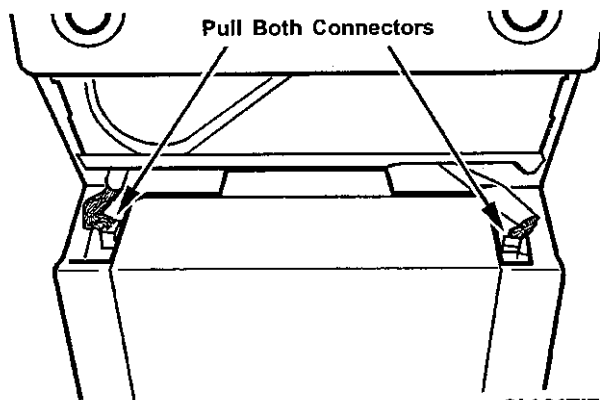

Figure 5-5
3. Disconnect the electrical connectors, by squeezing the retaining clips on the connectors and gently work the connectors out of the sockets (*Figure 5-5*).
3. Disconnect the electrical connectors by squeezing the retaining clips and gently working the connectors out of the sockets (Figure 5-5).